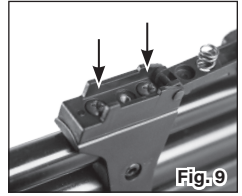

Fig. 9
2. Lift up the rear sight to get access to the two mounting screws (Fig. 9).